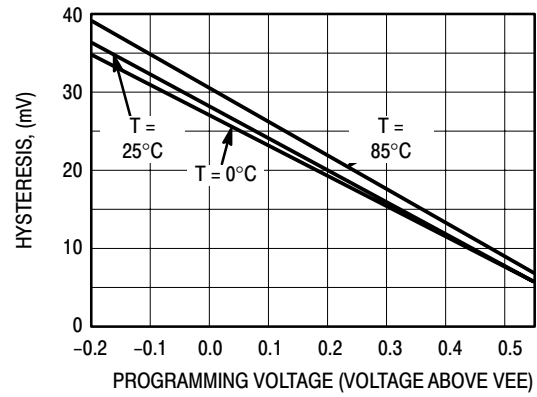

Figure 4. Hysteresis Programming Voltage
10. Refer to Figure 4 and note that the input is at 850 mV ECL levels with the input threshold range between the 20% and 80% points. The delay is measured from the crosspoint of the input signal and the threshold value to the crosspoint of the Q and $\bar{Q}$ output signals.